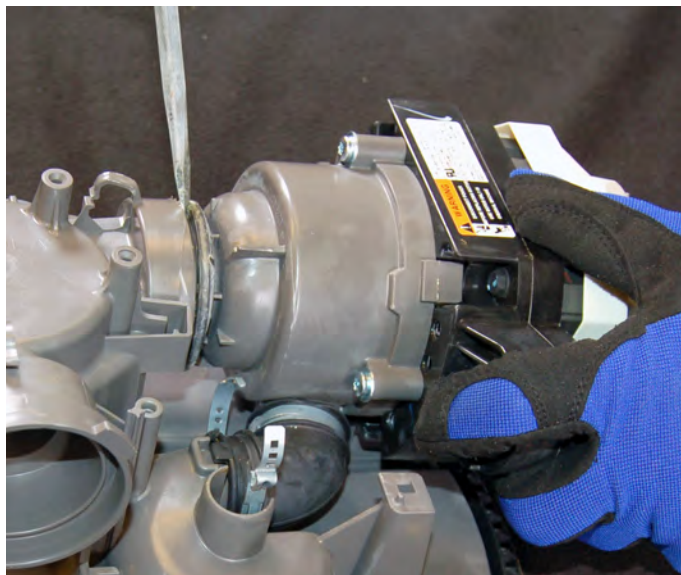

Figure 2
4. Use a screwdriver to gently loosen the seal between the grommet and the sump assembly (see Figure 2).